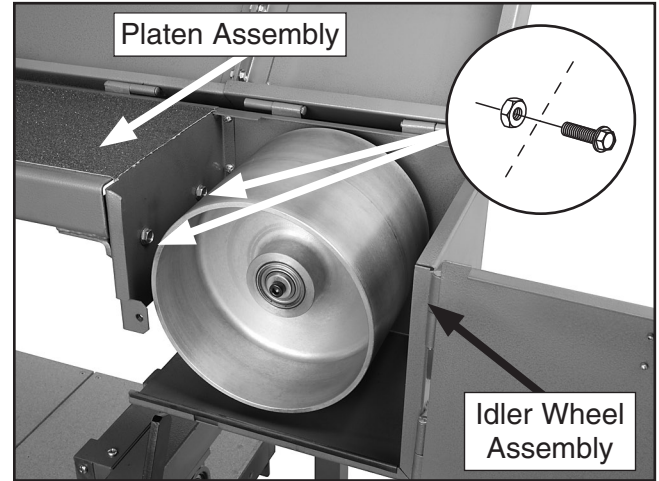

Figure 21. Idler wheel box.
11. Secure the idler wheel box to the platen assembly with (2) $\frac{5}{16}$ -18 x $\frac{1}{2}$ flange bolts and $\frac{5}{16}$ -18 hex nuts, as shown in **Figure 21**.